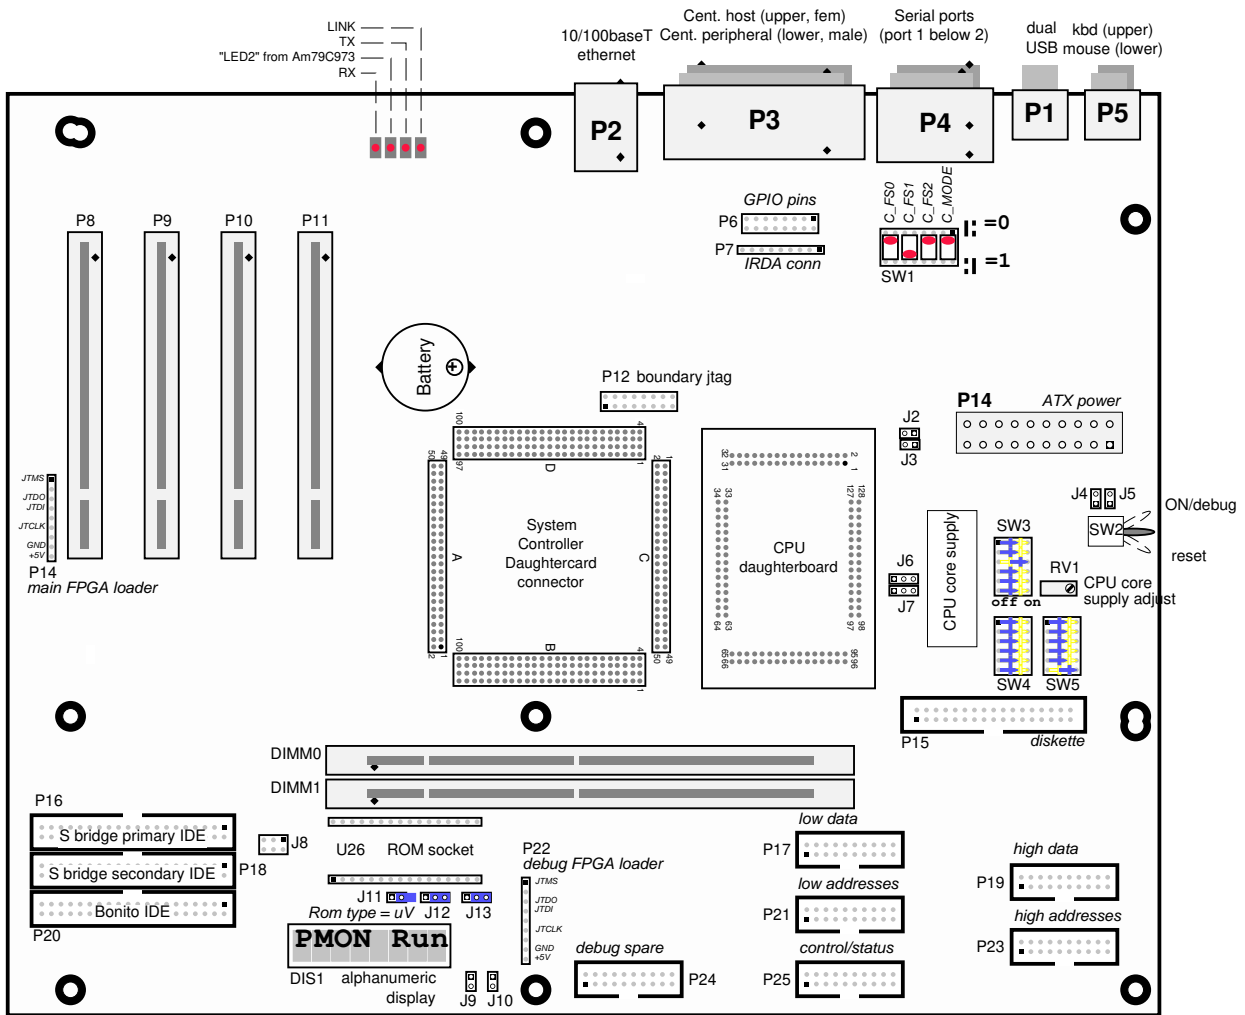

Figure 6.1 P-6032 layout, connectors and jumpers
- *LEDs*: four are provided as shown on Figure 6.1. Three show receive, transmit and link activity, but the fourth (called *LED2* in the AMD manuals) is programmable.
A diagram of what's where on P-6032 is Figure 6.1.
Notes on Figure 6.1
Use the diagram Figure 6.1 to locate the switch, if necessary. You're unlikely to find a CPU which won't run at 67MHz, and 83 and 100MHz are common. BONITO is (in theory) at its limits at 100MHz - but 112MHz is certainly worth a try!